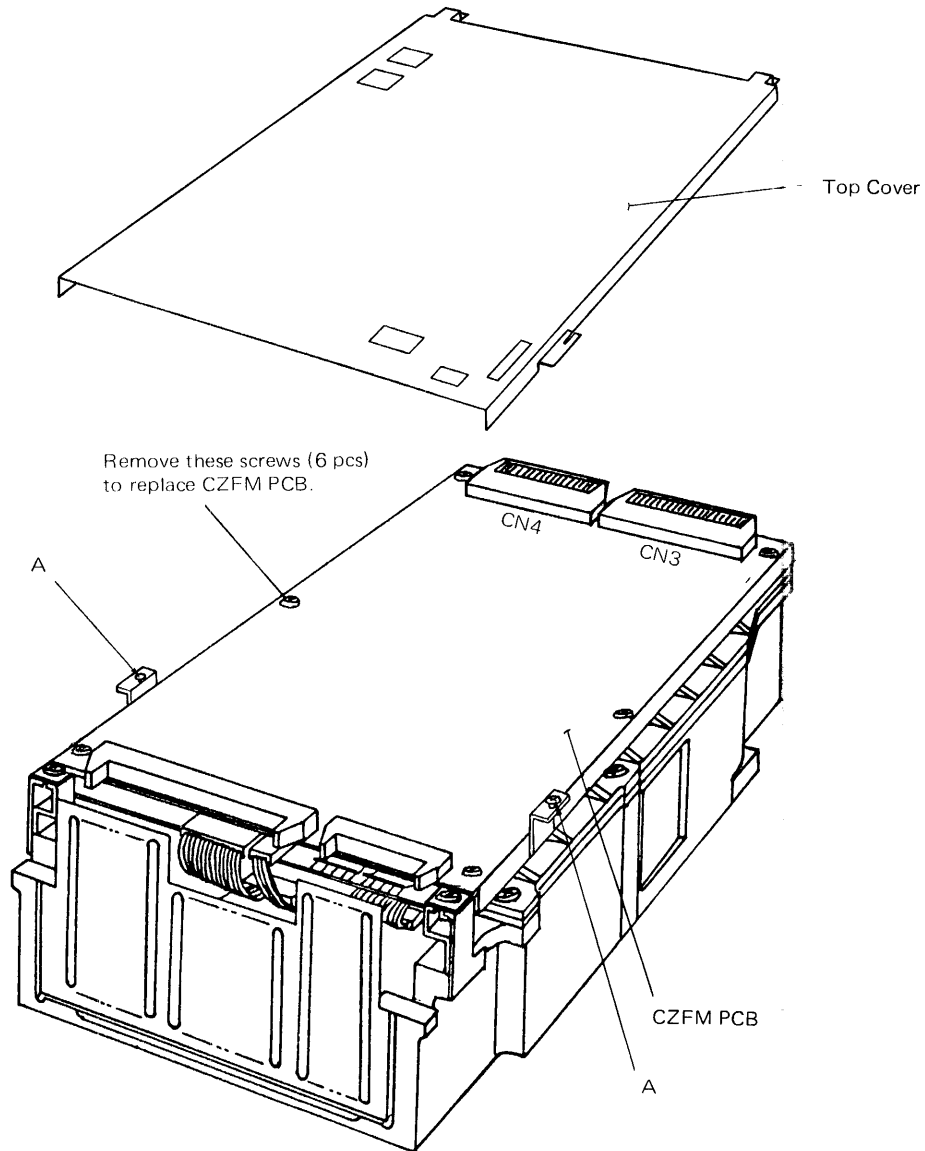

Figure 6-5-2 CZFM PCB Assembly Replacement
Refer to Figure 6-5-2.
(1) Removal
- (A) Loosen screws "A" and remove the top cover.
- (B) Disconnect wiring (CN3 and CN4) from the CZFM PCB assembly.
- (C) Remove the six screws indicates in Figure 6-5-2.
- (D) Remove the CZFM PCB assembly by lifting it.
(2) Installation
- (A) Fasten the CZFM PCB Assembly to the side frame, six screws.
- (B) Fasten connectors (CN3 and CN4).
- (C) Install the top cover and tighten screws "A".